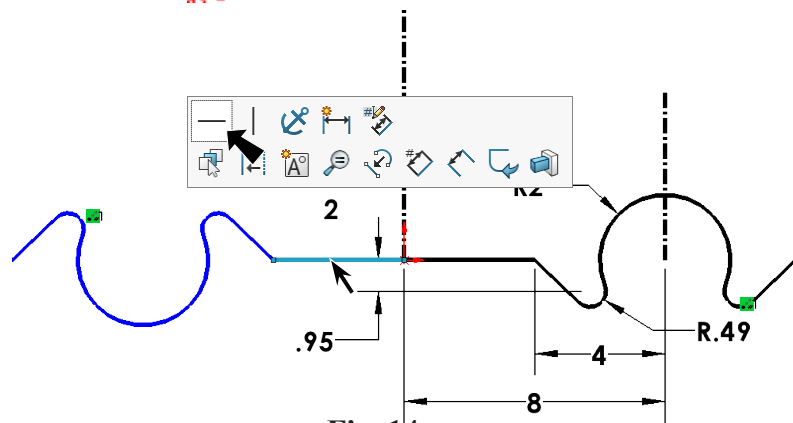

Fig. 14
Step 21. Click **cir pattern horizontal line at Origin** and click **Make Horizontal** on the context toolbar, Fig. 14.